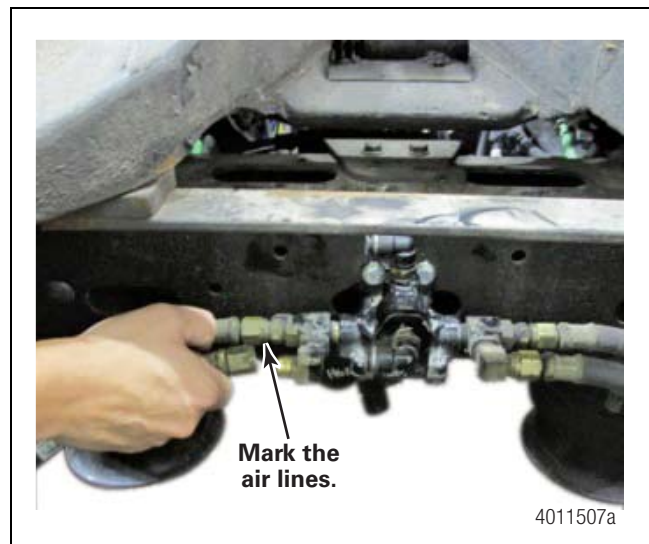

Figure 5
2. Disconnect the air lines from the park brake quick release valve and mark each line so they can be reinstalled in the correct position. Figure 5.